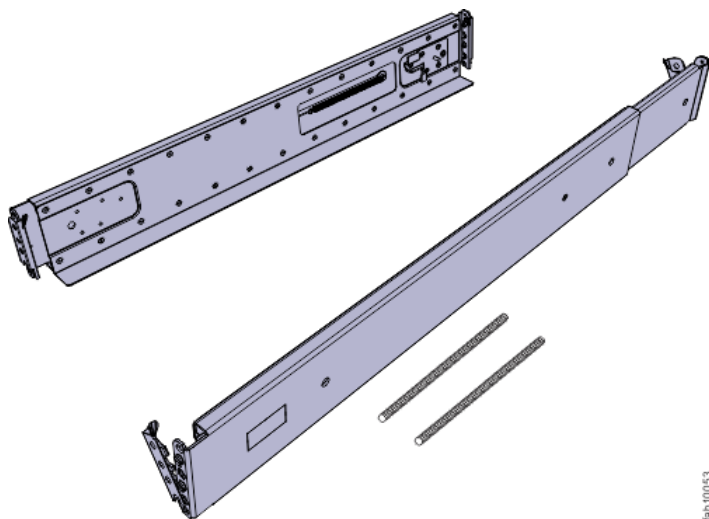

Figure 25. Expansion enclosure support rails
1. Locate the expansion enclosure rails (Figure 25 on page 65).